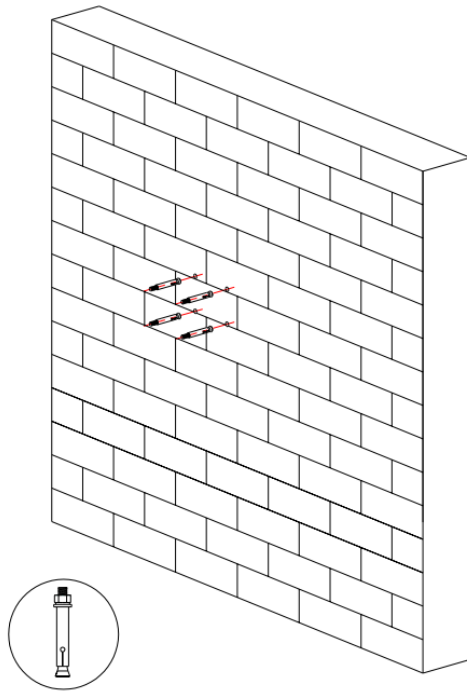

Figure WM-1
4. Insert four wall plugs into the holes respectively, and make sure the exposed part is about 20 mm (Figure WM-1).